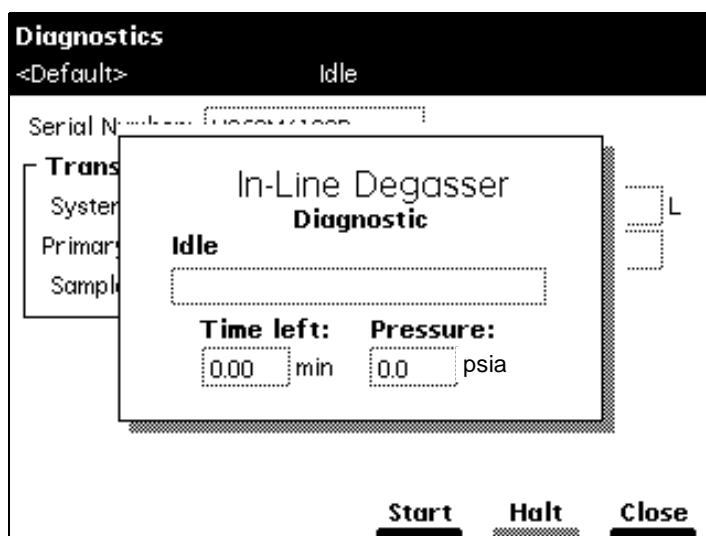

Figure 8-11 Degasser Diagnostic Screen
1. Select **Degasser** in the Other Diagnostics drop-down list, then press **OK**. The In-Line Degasser Diagnostic screen appears (Figure 8-11).